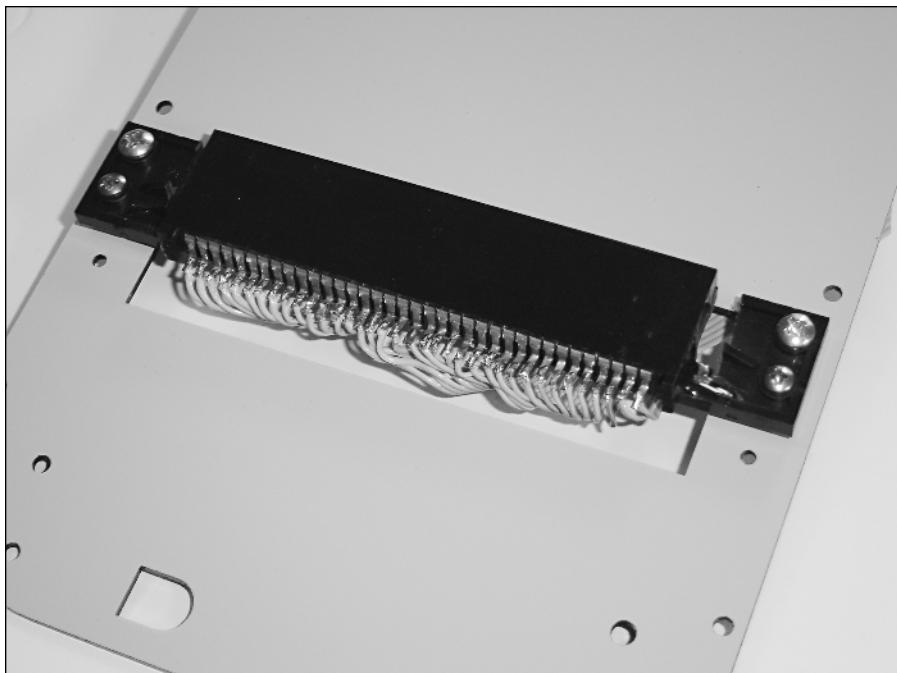

FIGURE 8-16: The placement of the cartridge connector on the center match plate.
6. Now let's attach the cartridge connector to the *center match plate*. Use two 1/2"-long size-4 screws and two 1/2"-long size-6 screws to attach it as shown in Figure 8-16. Thread all the ribbon cable through the rectangular hole. Place lock washers and nuts on the back of the plate to further secure the screws (lock washer first, nut second).